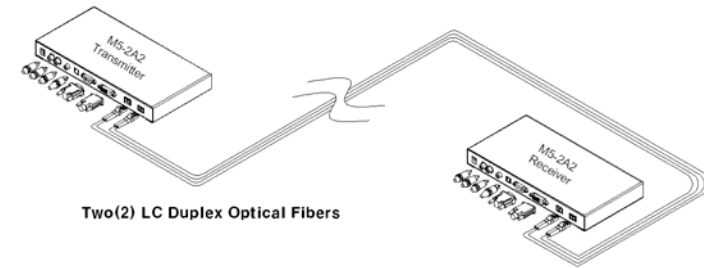

Figure 7 – Connection of Two(2) Duplex LC Optical Fibers
| Figure 7 – Connection of Two(2) Duplex LC Optical Fibers               | 1-5 |